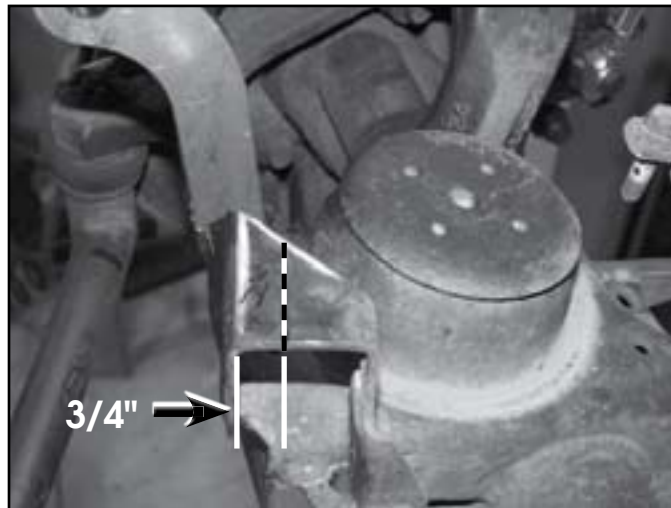

Fig. 25
65. Measure back from the front face of the factory stabilizer mount bracket toward the rear $\frac{3}{4}$ " and mark on the top of the bracket. Make a line along the top of the bracket, parallel to the front face at the $\frac{3}{4}$ " marked distance (Fig 25). This will be a reference line for installing the new stabilizer mount/support gusset.